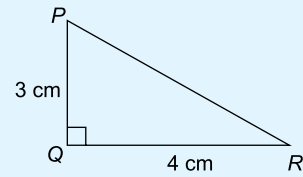

Figure 1.9
- In the right-angled triangle *PQR* shown in Figure 1.9, angle *R* is equal to: